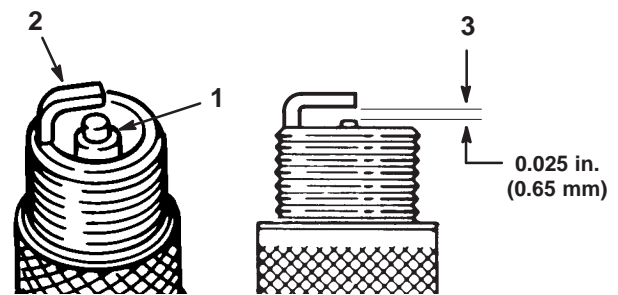

Figure 31
1. Look at the center of the spark plug (Fig. 31). If you see light brown or gray on the insulator, the engine is operating properly. A black coating on the insulator usually means that the air cleaner is dirty.
2. Check the gap between the center and side electrodes (Fig. 31). Bend the side electrode (Fig. 31) if the gap is not correct.